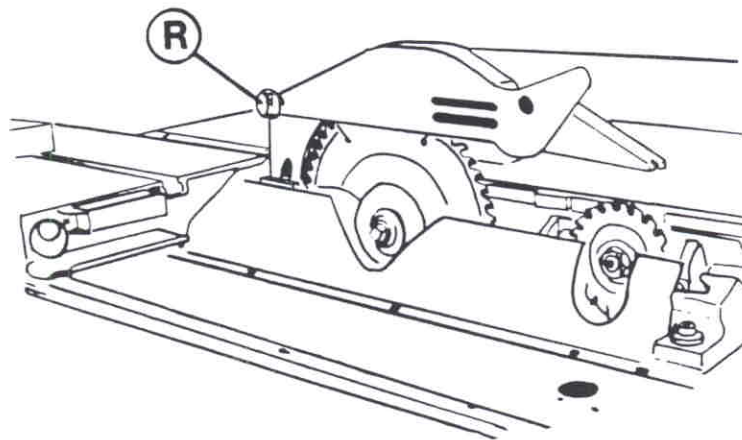

Fig.32
Guard (fig.32) is fitted to riving knife by means of knob (B).